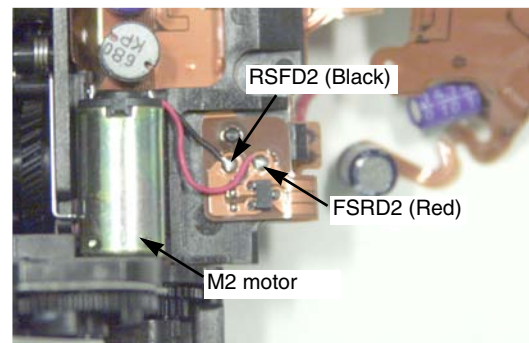

Fig. 3-23 M2 motor lead wires
1. Remove the two M2 motor lead wires on the back of the wing. (Fig. 3-23)